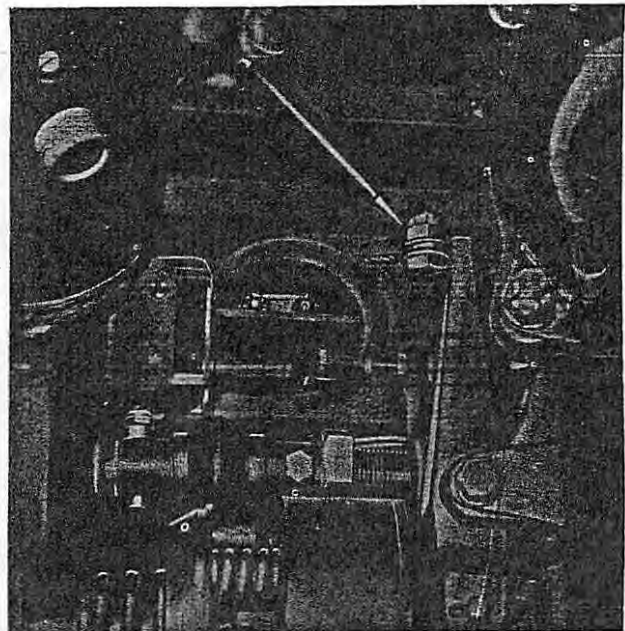

Figure 2-84. Clutch Cable Length Adjustment
- c. Tighten bolt on the cable to give 1/16-inch plus or minus 1/32-inch clearance between the bolt and clutch arm (figure 2-84).